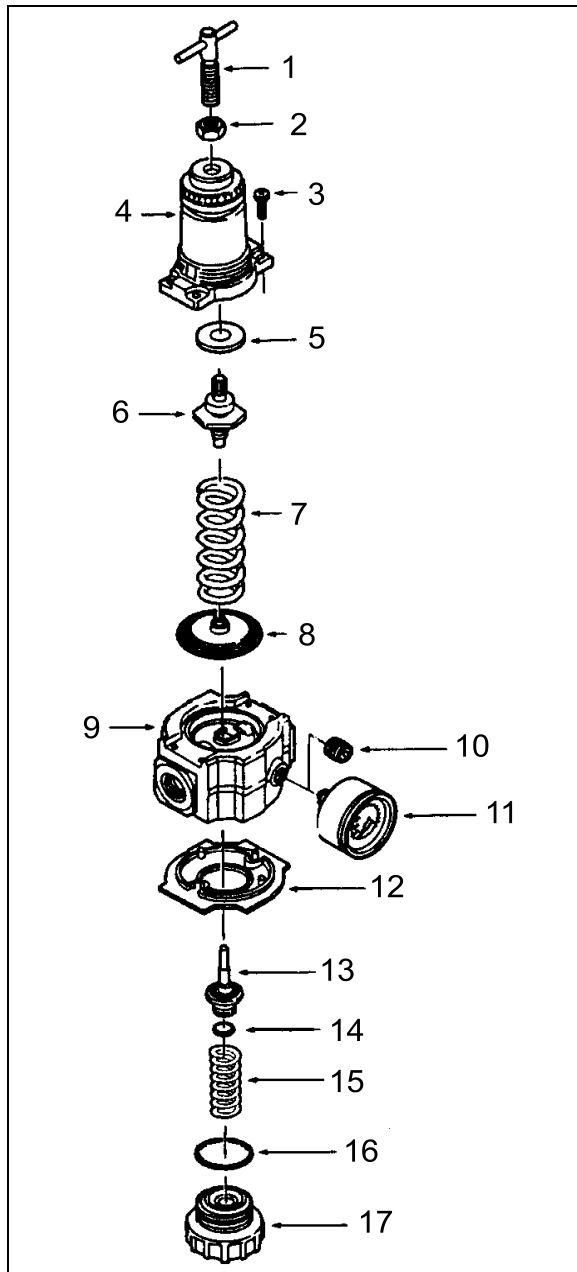

FIGURE 42: AIR PRESSURE REGULATOR
1. Before turning on system air pressure, release jam nut (2, Figure 42) then turn regulator adjustment handle clockwise until the load is removed from the regulating spring.
5. Tighten jam nut (2, Figure 42) to lock pressure setting.
1. Shut off inlet pressure and reduce pressure in inlet and outlet lines to zero. Turn regulator adjustment handle (1, Figure 42) counterclockwise until all load is removed from regulating spring. Regulator can be disassembled without removal from air line.
1. Lubricate O-ring (14 and 16, Figure 42), valve stem (13), tip of adjusting screw (1), and the outer circumference and both sides of the thrust washer (8) with a light coat of good quality O-ring grease.